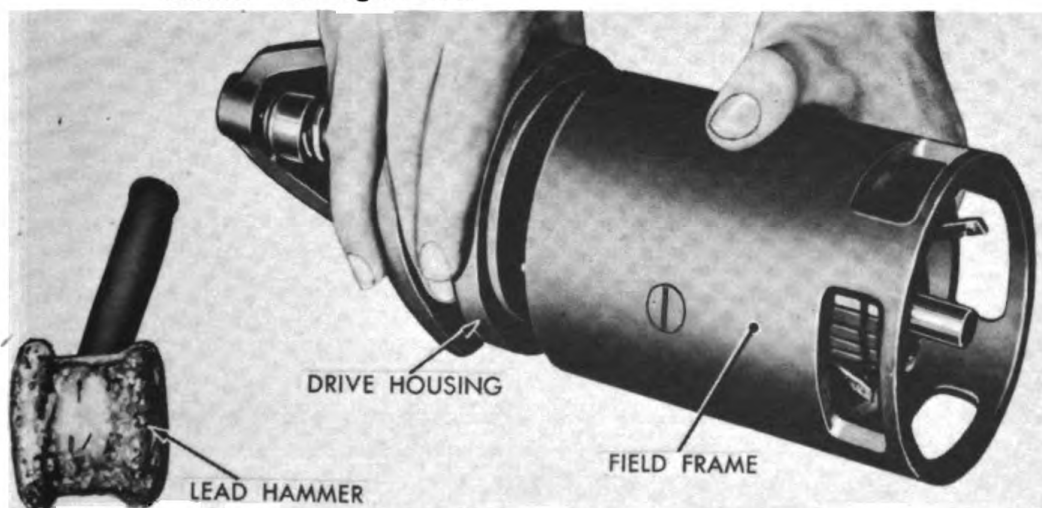
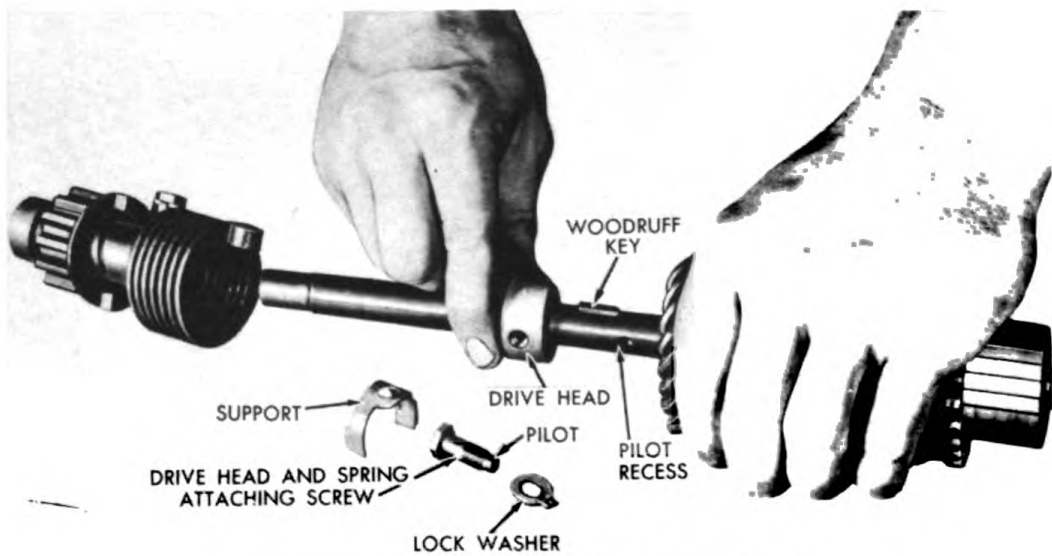
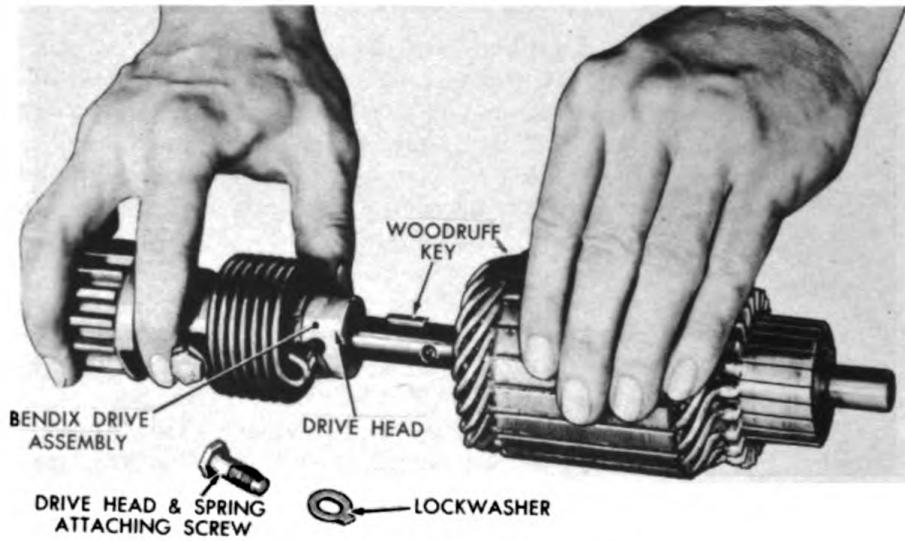

Figure 234. Removing Drive Housing and Armature from Frame.
Figure 235. Installing Bendix Drive Head.
Figure 240. Installing Bendix Assembly.
- c. Remove thrust washer from armature shaft. See figure 234.
- d. Tap the drive housing away from the field frame and remove the armature with the Bendix Drive and the drive housing. See figure 234. Then remove the armature and Bendix Drive from the drive housing as shown in figure 235.
- a. To assemble the Bendix drive on the shaft, put the woodruff key in place followed by the drive head. See figure 235. Slip the drive spring and remainder of the assembly on the shaft and secure them by running down the Bendix drive spring screw. Be sure to use new lockwashers and place them with the bent lip in the gap in the drive spring eye. Bend the tangs up against the flat side of the screw head. See figure 240.